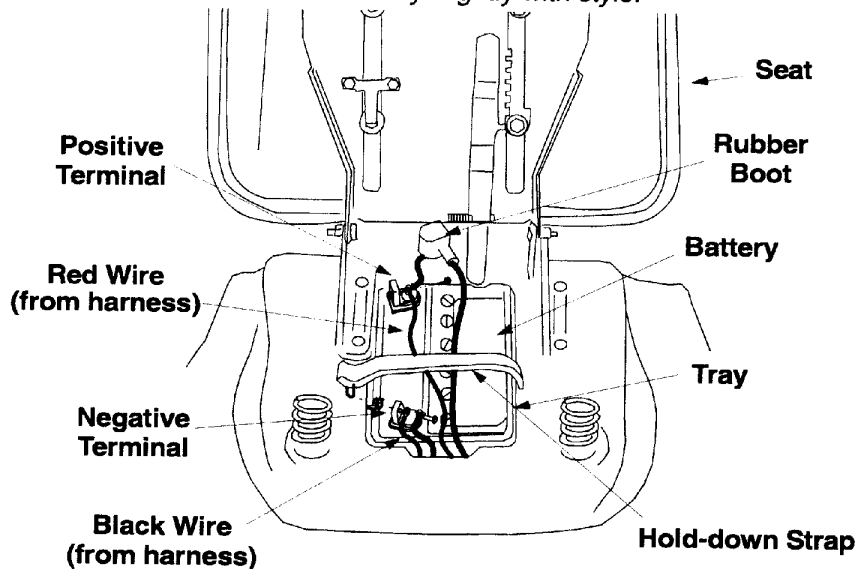

Figure 6
7. Reach through the battery tray opening and grasp the portion of the sleeve hitch wire harness containing the black wire and the red wire. Pull it up and toward the rear of the tractor and fasten it to the tractor's existing wire harness with a cable tie before replacing the battery tray and the battery. See Figure 6.
8. Reconnect the battery by first placing the red wire from the sleeve hitch wire harness on the hex screw of the Positive battery terminal followed by the thick red wire removed earlier. Use the hex nut removed earlier to affix both wires to the terminal before sliding the protective rubber boot down. See Figure 6.
9. Follow by placing the black wire from the sleeve hitch wire harness on the hex screw of the Negative battery terminal followed by the thick black wire removed earlier. Use the wing nut removed earlier to affix both wires to the terminal. See Figure 6.